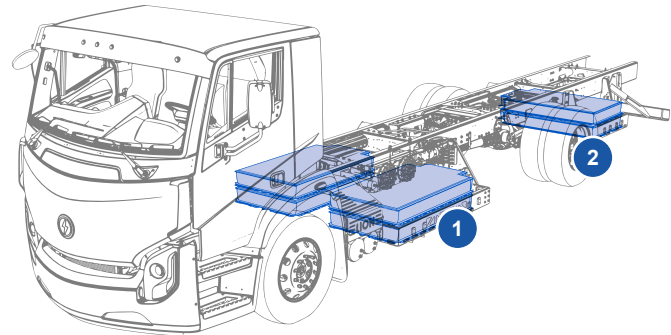

Figure 2 - Batteries locations
- Four batteries are located between the front and the rear axle (**Figure 2 no.1**),
- Two batteries are located behind the rear axle (**Figure 2 no.2**).